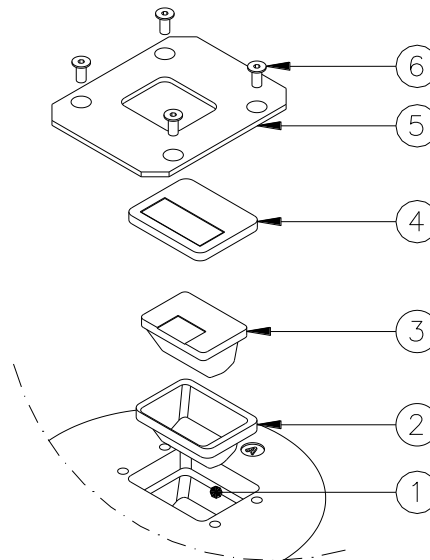

Figure 31 – Prism Gasket
- prism gasket mounted between prism and dome (Figure 31- n°2).